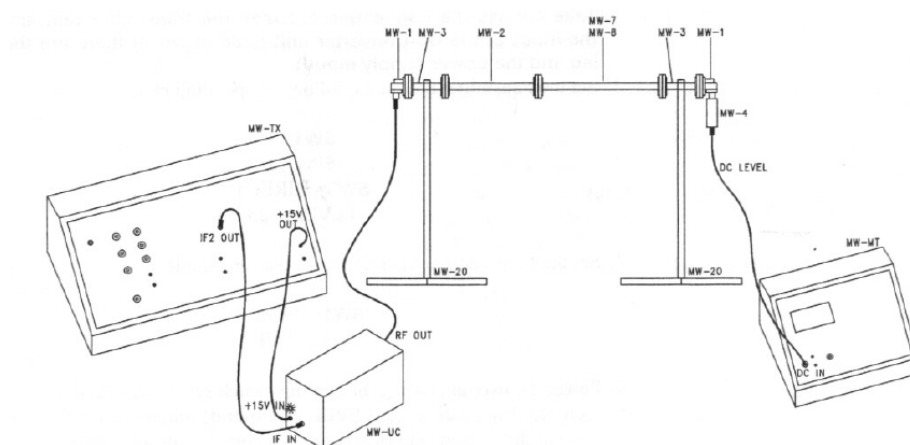

Figure 1
The Wave-guide to Coaxial adapter or "WG to Coax" is used to convert the electromagnetic field (E-H) present in the wave-guide into electrical signal in the coaxial cable. Obviously its function is performed in both directions, so also from electrical signal to electromagnetic field. See *Figure 1*. The commonly available adapters are set for the excitation of the electrical fields inside the wave-guide: this occurs introducing a conductor inside the guide (*Figure 2*), at a distance of $\lambda_g/4$ (λ_g is the wave-length in the guide) from the rear side, so that the reflected and the incident waves are in phase. Even the height X is about $\lambda_g/4$ and each component is singularly matched for the best performances. Our adaptor is Coaxial cable kind: SMA-female, VSWR: 1.25 max.
1. Carry out the wiring between the units as shown in Figure 1.
Carry out the wiring as indicated in *figure 1* between the units.